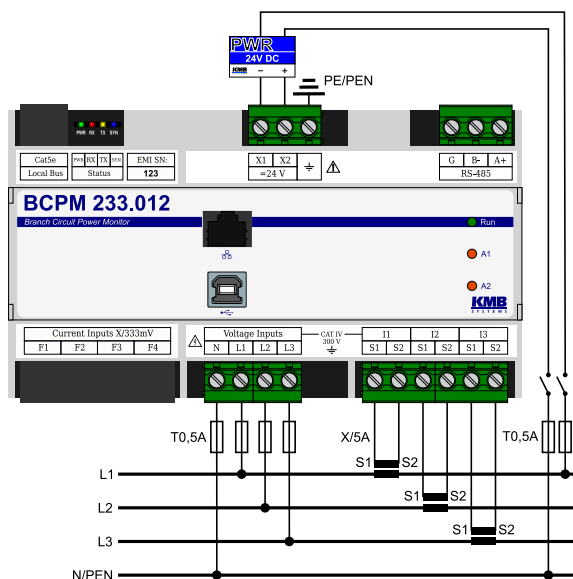

Figure 5: An example of a typical connection of BCPM 233.012 in a LV network - wiring a measured voltage to a star in a four-wire network.
**Option „X/5A“** The secondary CT winding of nominal 5 A or 1 A must be fed to the terminals S1 and S2 of the current inputs I1, I2 and I3. Figure 5 illustrates the correct connection with the CTs in the LV network. In the figure 6, there is an example of a HV network using an Aron circuit where I2 inputs remain unconnected. In MV/HV networks, it is always necessary to ground the S1 (or S2) terminals of all CTs at one point.
- For direct measurement (see eg Fig. 5 set the multiplier value to 1 — default value.